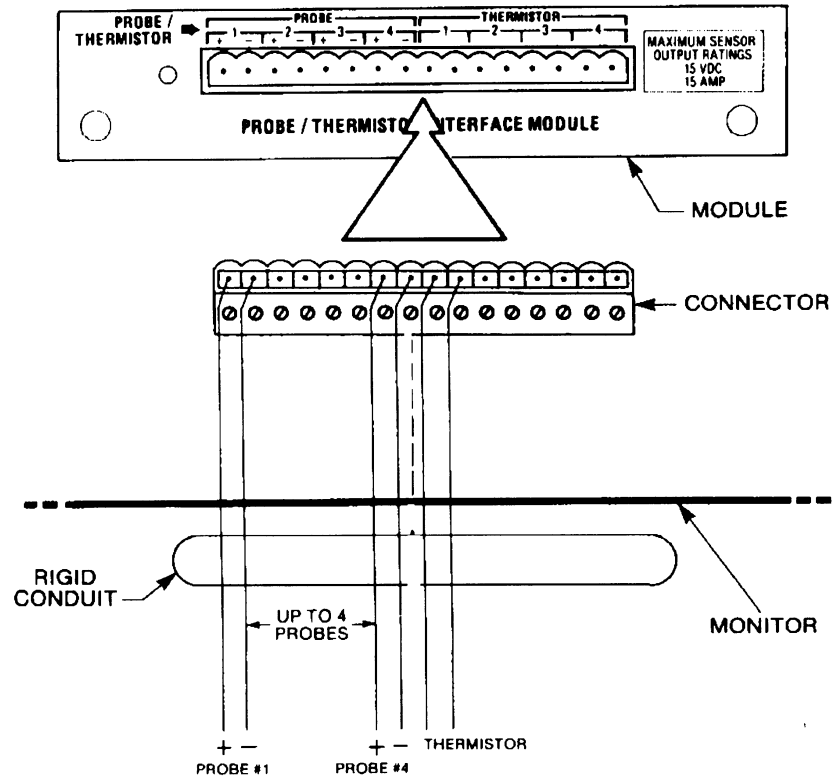

Figure 9. Thermistor Interface Module Wiring Diagram
2. Connect the two color-coded or marked wires from the thermistor to the terminals for Thermistor #1 on the Thermistor Interface Module connector (see Figure 9 on page 44).